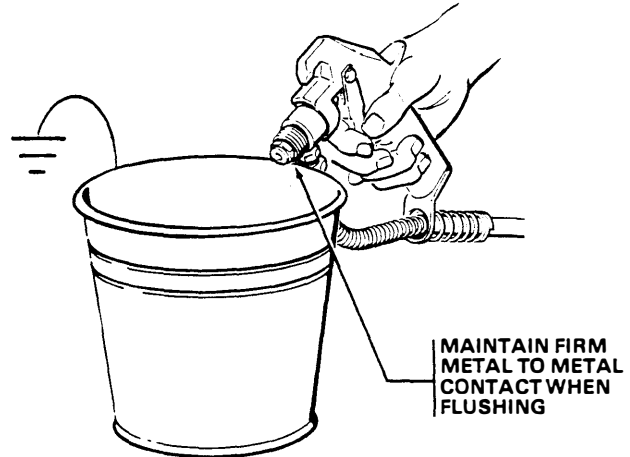

Fig 4
- f. Hold a metal part of the gun firmly against and aimed into a grounded metal waste container. See Fig 4. Squeeze the trigger and hold it open, turn the ON/OFF switch to ON, and slowly increase the pressure setting until the sprayer starts. Keep the gun triggered until all air is forced out of the system and the paint flows freely from the gun. Release the trigger and engage the safety.